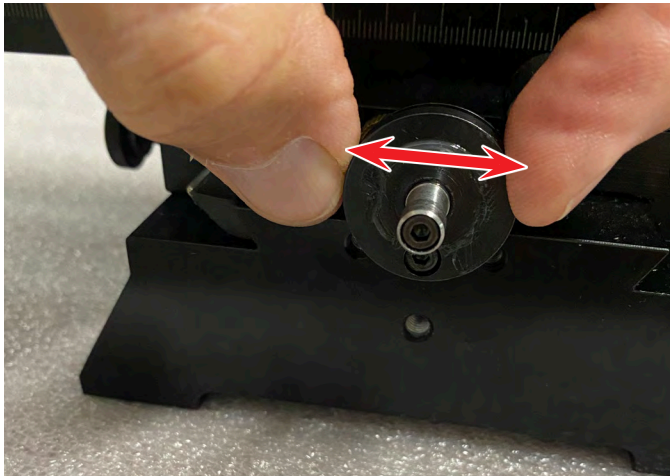

FIGURE 17
R. Insert the thrust collar mounting screw and leave it loose. Grab the thrust collar by the sides. You will notice that there is some play. The thrust collar will move from side to side a slight amount. Move the collar so it is in the middle of the play area (see Figure 17).